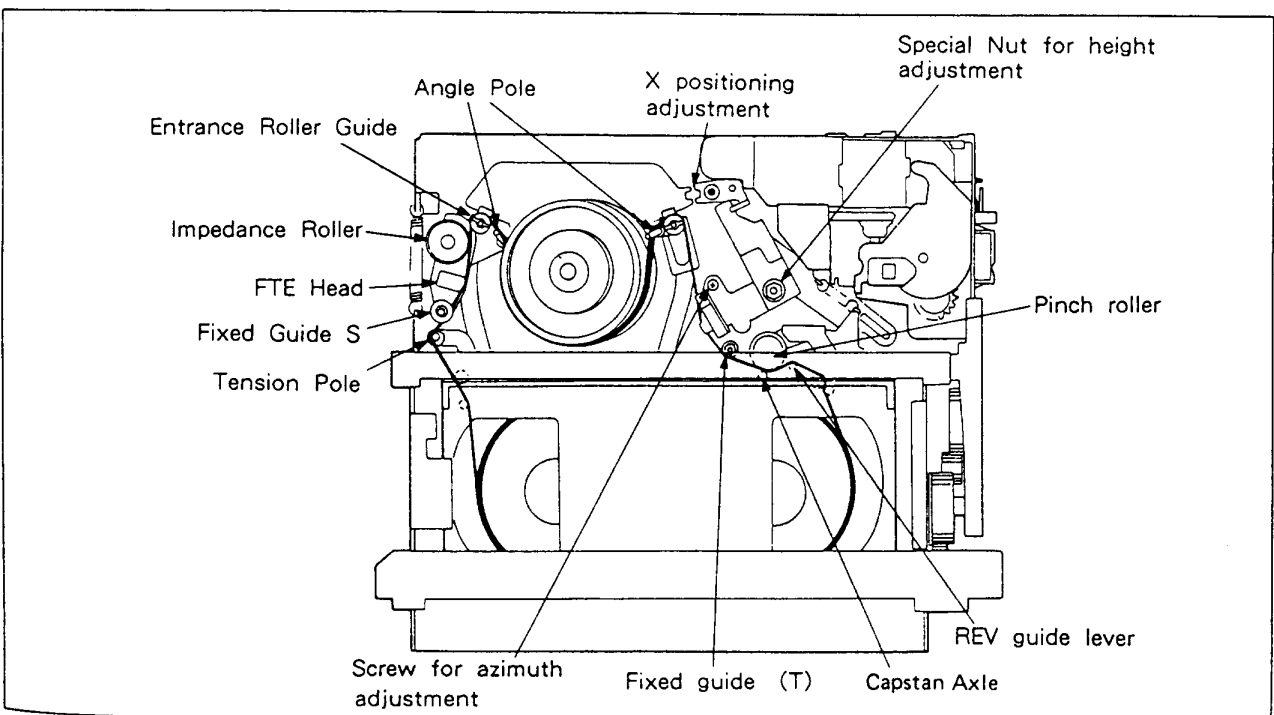

Fig. 4-1-2. Cleaning
② Cleaning of the Tape Guide System (See Fig. 4-1-2.)
③ Cleaning of the Drive System